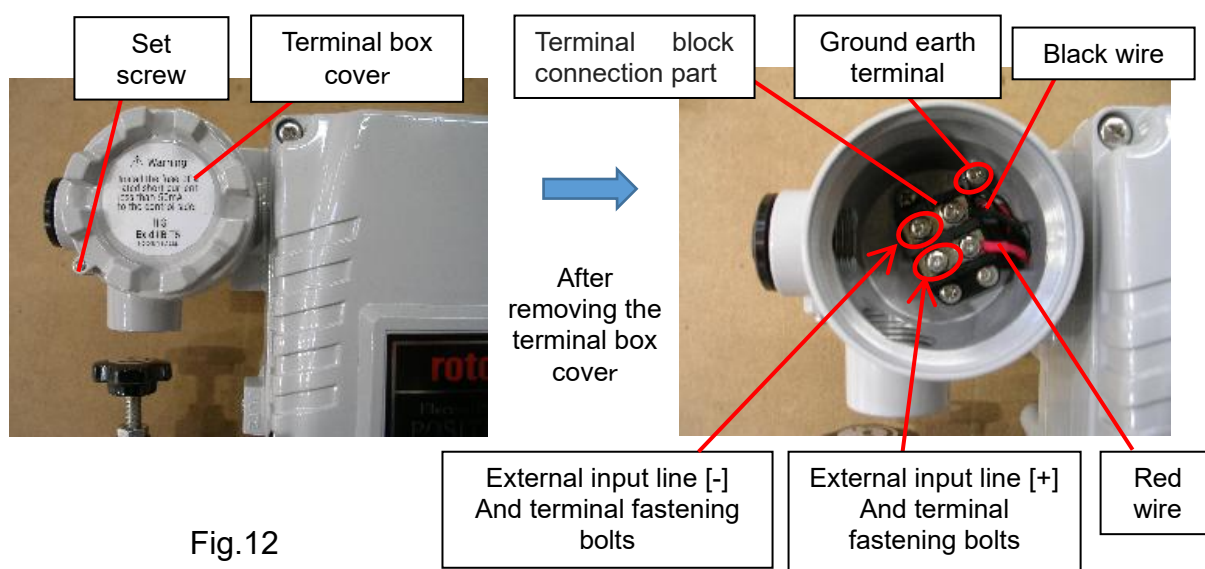

Fig.12
*Terminal wiring method (See Fig.12)
- ① Remove the set screw of the terminal box (Use the hex wrench) and remove the terminal box cover.
- ② Please connect the positive terminal of the terminal block located in the terminal box to the positive line of external input line. (In case of negative terminal, please connect the negative terminal of the terminal block located in the terminal box to the negative line of external input line). To protect the positioner, earth the gland earth terminal. When connecting, please tighten the terminal fastening firmly so that there is no connection failure.
- ③ After connecting the external line, tighten and fix the set screw after closing the terminal box cover. (Tightening torque: 0.25N · m)